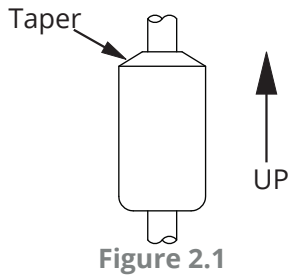

Figure 2.1
- The float(s) is/are oriented properly on the stem (See Figure 2.1). MPI-F floats are installed by customer.